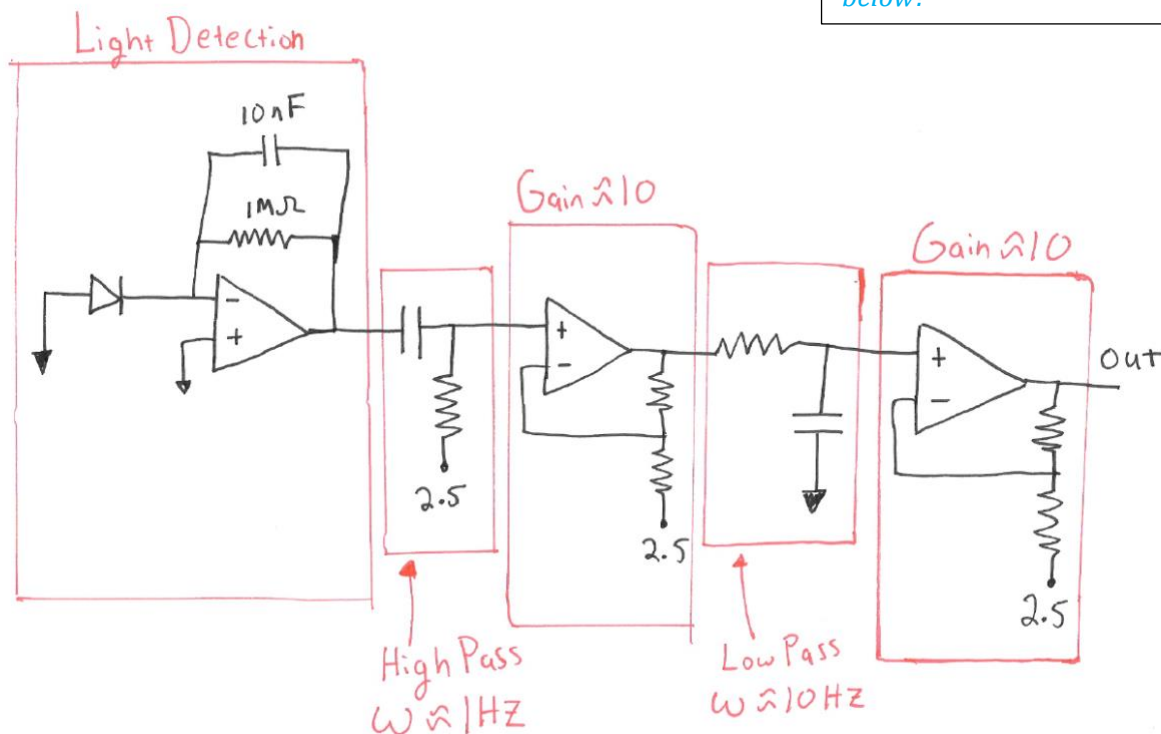

Figure 1: Circuit to measure the variation in light intensity through your finger.
- 2) Your final circuit schematic, i.e. a copy of Figure 1 but with your final values selected. You can hand sketch it. Include the resistor values on the schematic. Include the actual cutoff frequencies and amplifier gains. You can sketch the circuit, but it should be neat enough that someone else in the class could build the circuit off your drawing.
Design and build your circuit using Figure 1. Please note that there is no single “right” answer. Anything close to the specified functional range should work just fine. You could try a few values for each unknown component and see how the circuit behaves and what you like best.
Here is an example using Ch2+for V_{out} . The circuit uses the Figure 1 design with two amplifiers of Gain=11 each and filters that pass signals between 1 Hz and 10 Hz.